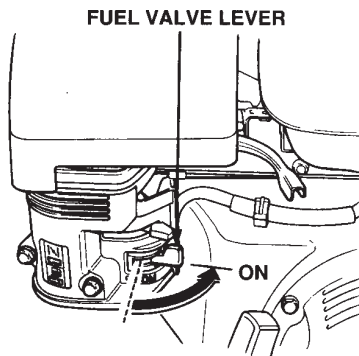

Figure 16. Fuel Shut-OFF Lever
1. Place the fuel valve lever (Figure 16) in the **ON** position.